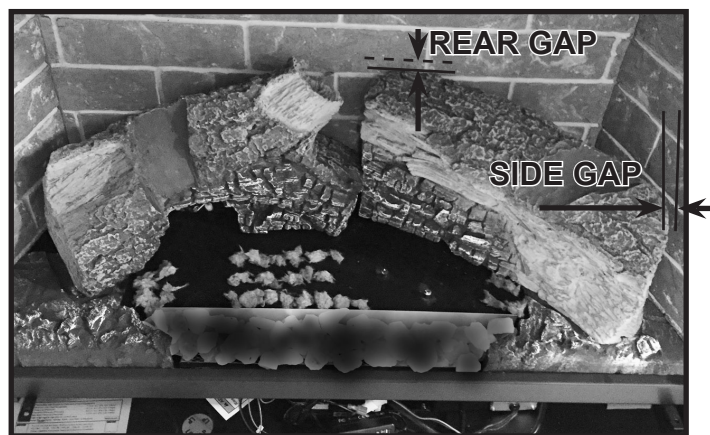

Figure 5. Rear Right Log Installed
2. Remove the large rear right log from packaging and install it by locating it on the back right log pin. On some models, it may be necessary to lift the rear left log slightly to install the rear right log. The right side of the log will reside within the indentation in the right hearth component. See Figure 5.
**SL-7X and SL-9X Models:** The rear right log will be positioned to contact the back wall refractory (no rear gap). There will be about a 3/4 inch side gap between the right end of the log and the right refractory panel. See Figure 5.
**SL-3X Models:** The rear right log will be positioned to maintain about a 1 inch rear gap between the rear right log and the back wall refractory. The rear right log will contact the right refractory panel (no side gap). See Figure 5. Slide the rear left log rightward as close to the rear right log as the locating pin will allow. There should be no more than a 1/4 inch gap between the rear logs.
**SL-5X Models:** The rear right log will be positioned to maintain about a 1/4 inch rear gap between the rear right log and the back wall refractory. The rear right log will contact the right refractory panel (no side gap). See Figure 5.